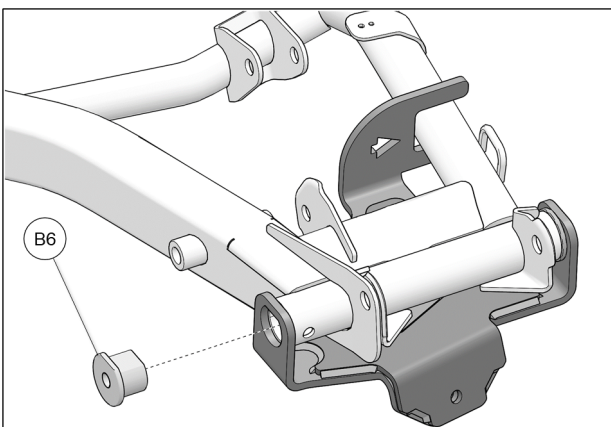

Fig. 7
8. Insert the threaded T-Bushing (B6) through anchor bracket, and in suspension arm. See Fig. 7